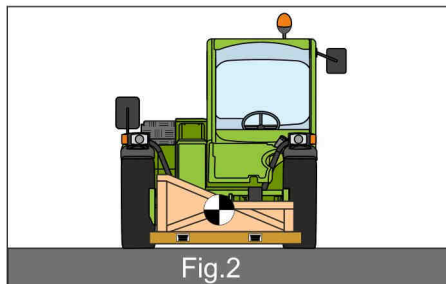

Fig.2
If irregular loads are manoeuvred, the centre of gravity needs to be calculated transversely before each manoeuvre (Fig.2).
- water level in the radiator (figure 2)